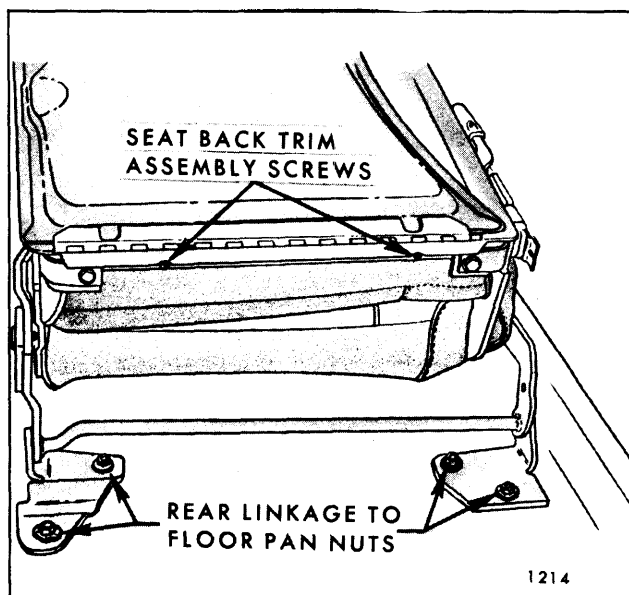

Fig. 15-85—Folding Second Seat Rear Linkage
1. Remove rear door sill plate and turn back floor carpeting sufficiently to gain access to nuts securing folding seat front and rear linkage to floor pan (Figs. 15-85 and 15-86).
3. Remove nut and washer assemblies securing front and rear linkage to floor pan (Figs. 15-85 and 15-86); then, remove seat assembly from body.
2. Remove seat back trim assembly attaching screws. (See Fig. 15-85).